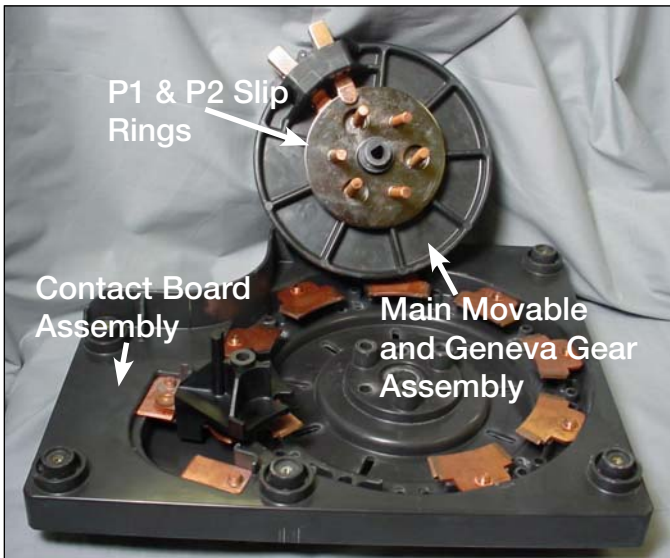

Figure 21.
- Facing the main movable contacts and geneva gear assembly, pull forward removing the main contact assembly and P1 and P2 slip ring assemblies from the contact board assembly. See Figure 21.